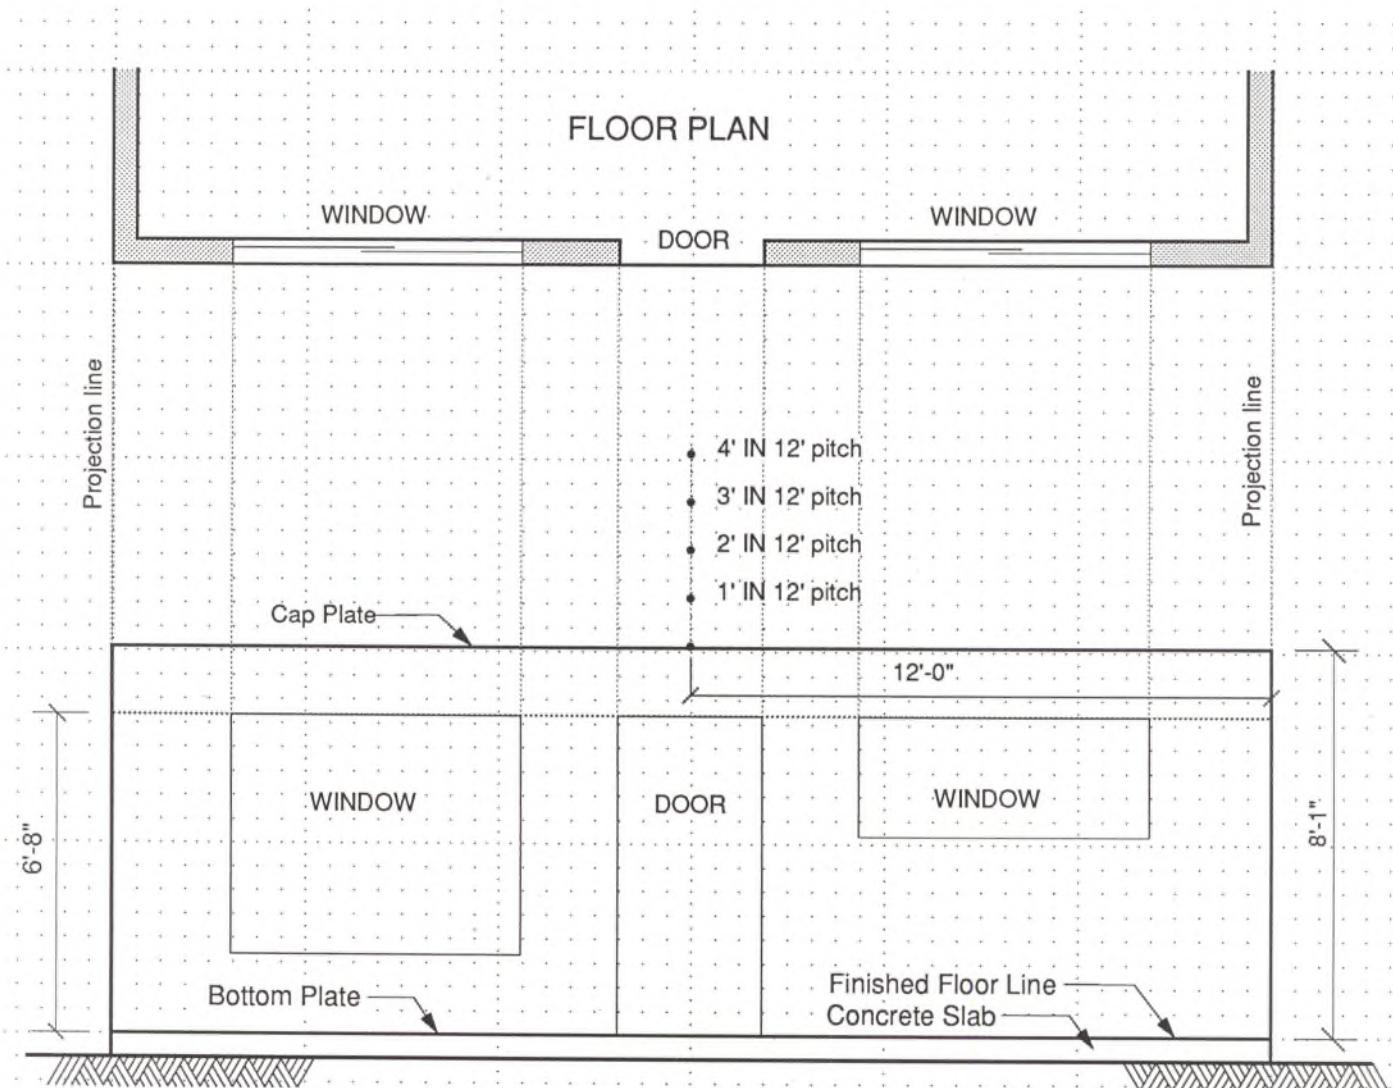

Fig. 24.8 Decide on and measure for the roof pitch.
1. To construct a gable-roof design, begin by measuring *in* 12' from one of the corner walls on your drawing, along the top of the cap plate. Draw a light, vertical line, as shown in Fig. 24.8.
2. Measure *up* 1' for each foot of rise, depending on the roof pitch selected. Make dots on the vertical line at intervals of 1'. (See Fig. 24.8.)